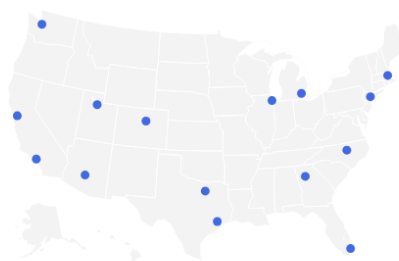

Figure 6: 15-FC Fulfillment Network
- 15-FC Network, relying on the following FCs, as displayed in Figure 6: